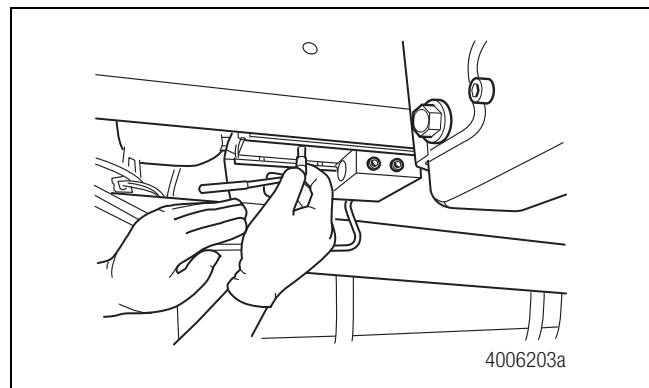

Figure 2
10. Use a 6 mm hex-head socket wrench to remove the pump retaining plug from the HCU cavity. To minimize fluid spill, keep the replacement pump within reach and prepared for installation. Figure 2.